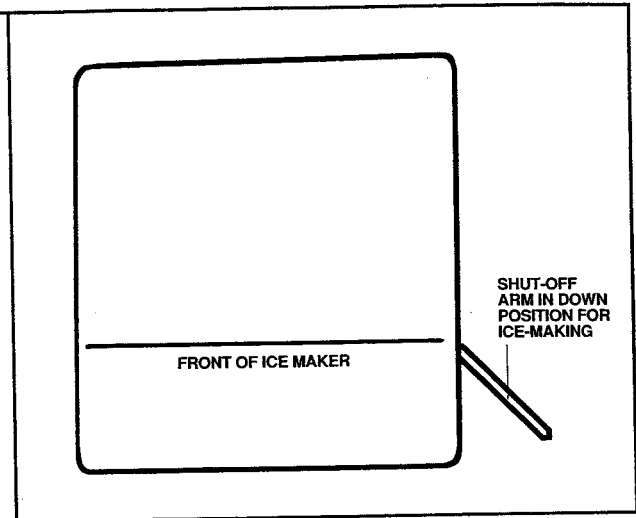

Figure 17
12. The ice maker is shipped from the factory with the shut-off arm in the *down* position, as shown in Figure 17. This is the correct position for ice making.